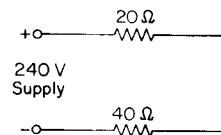

Fig. 2.101
25. Find the current flowing in the circuit shown in Fig. 2.101.